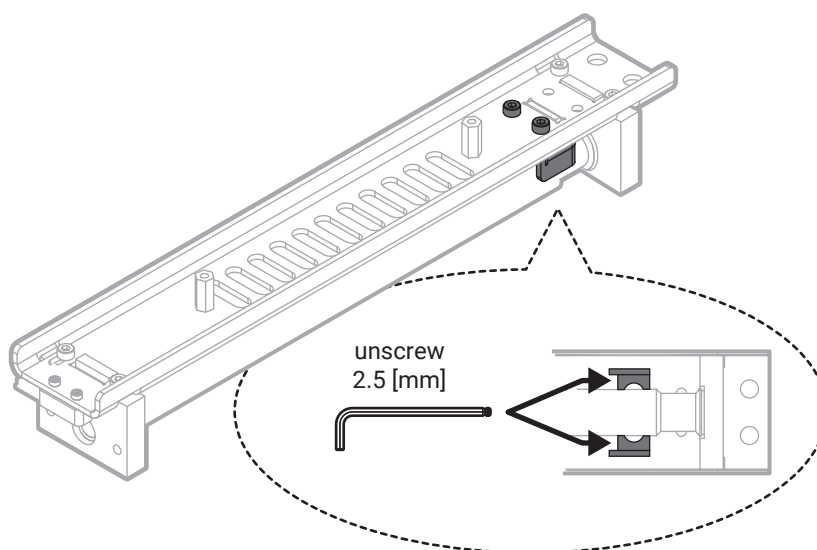

Fig. 9 Removing the Recoater base.
19. Using a 2.5 mm allen key loosen the two screws of the Recoater base on the right side of the Recoater (fig. 9) and remove it.